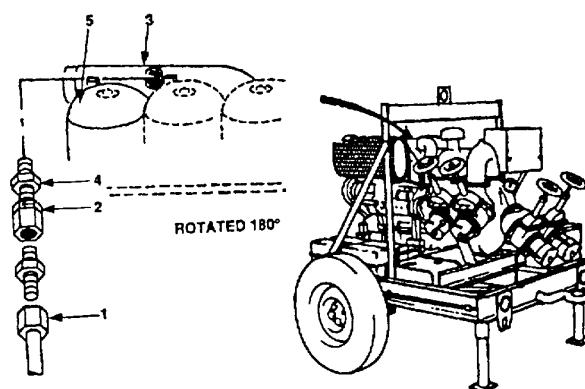

Figure 4-7. Starting Aid Nozzle Maintenance (All Except Model 350 PAFN).
- a. Disconnect hose (1, figure 4-7) from nozzle (2).
- b. Remove nozzle (2) from intake manifold (3).